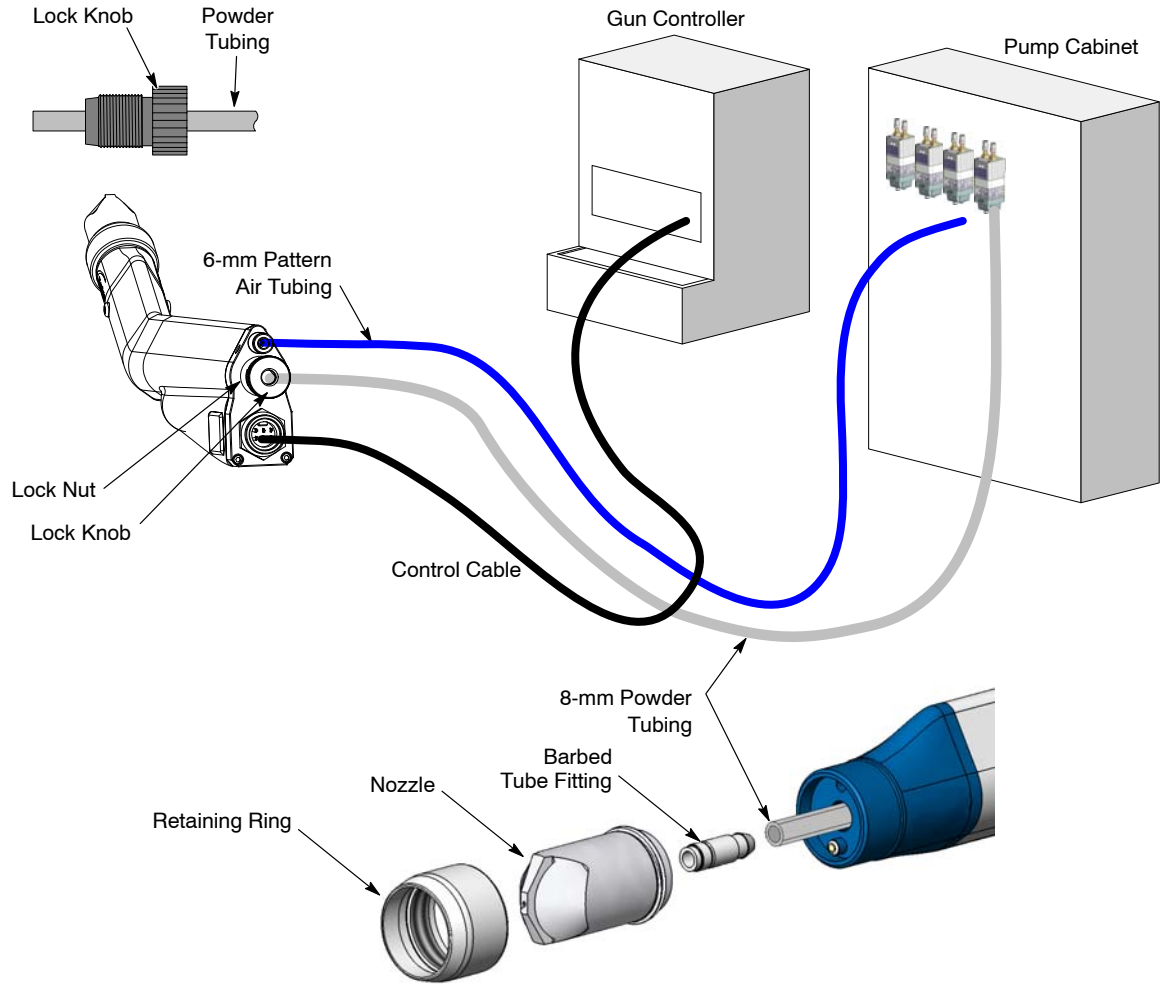

Figure 4 Tubing and Cable Connections
1. See Figure 4. Connect the control cable to the gun and the appropriate receptacle on the iControl cabinet. Tighten the cable nuts securely.